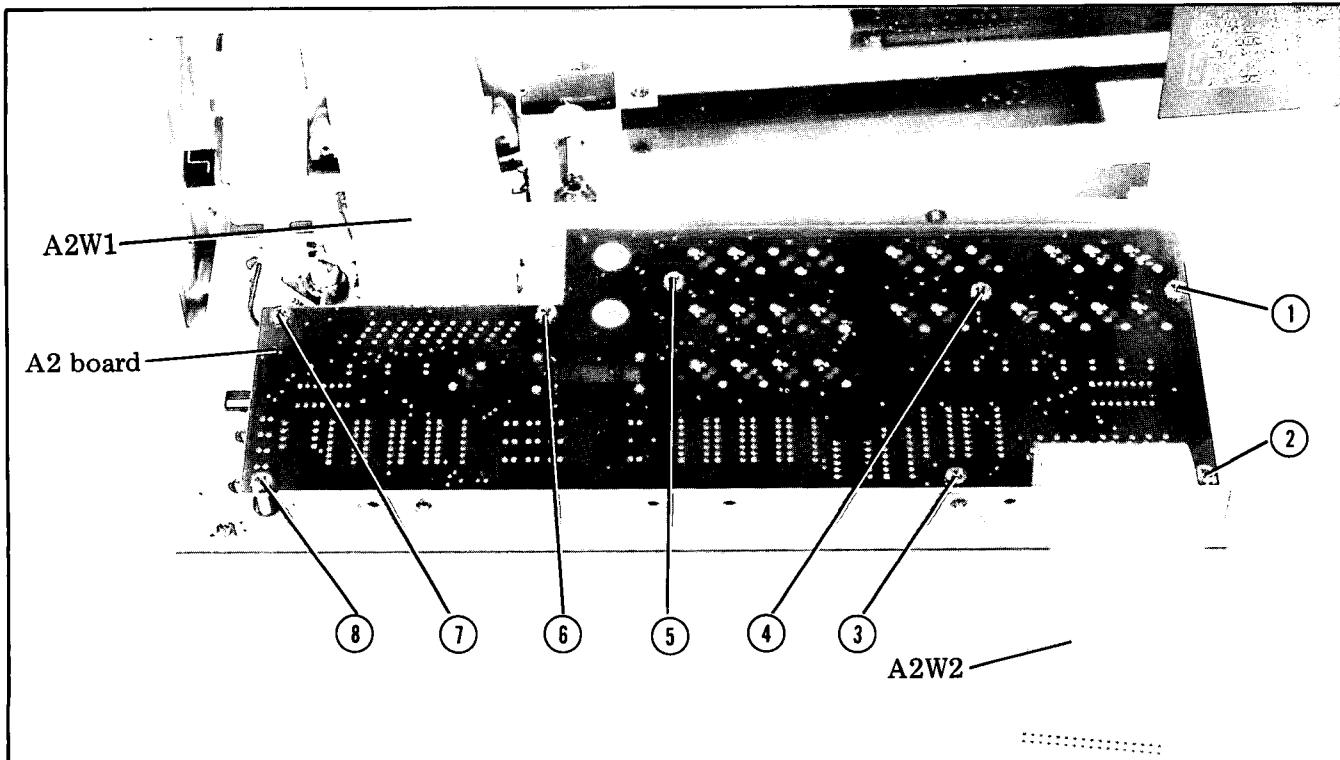

Figure 8-14. A2 Keyboard and Display Board Disassembly.
- f. Disconnect flat cable 40 pin connector A2W2 from the plug mated with A21 board assembly. See Figure 8-14.
g. Disconnect flat cable 40 pin connector A2W1 from the plug mated with mother board. See Figure 8-14.
b. Remove the 8 screws (① through ⑧) in Figure 8-14) fastening A2 board to front panel.
- b. Remove 8 screws (1) through (8) in Figure 8-14 fastening A2 board to front panel.